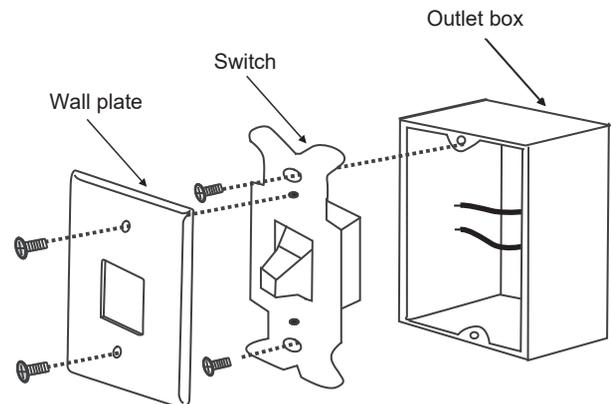

Figure 19
a. Remove the existing wall plate and the old switch from the wall outlet box. Wire nut the BLACK leads (hot) together and push back inside the outlet box. (Fig. 19)